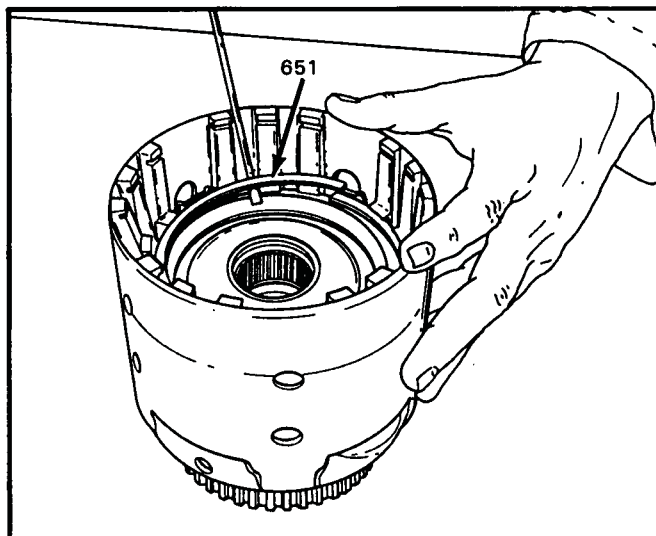

Figure 110
5. Remove the forward clutch snap ring using a screwdriver (See Figure 110). USE CAUTION WHEN REMOVING THE SNAP RING AS IT IS EXTREMELY STIFF.